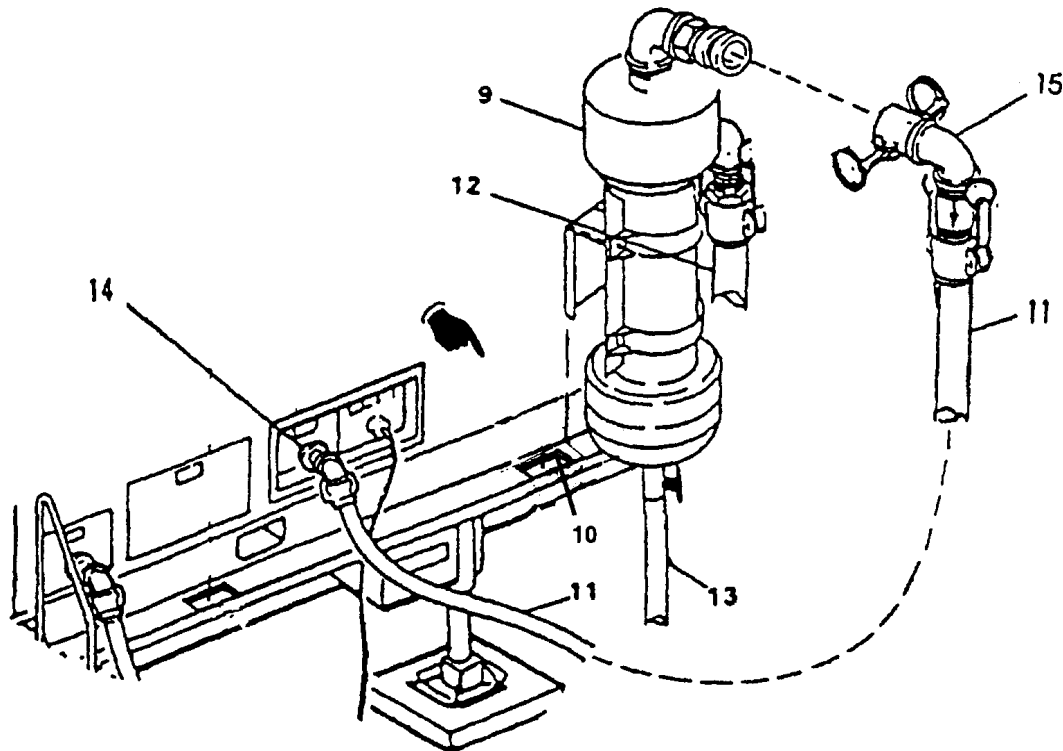

Figure 2-29. Set-Up Cyclone Separator (Sheet 2 of 2)
- (l) Install the cyclone separator (9, Figure 2-29) into the stake pocket (10) on the trailer.
- (m) Install pipe section (15) onto the cyclone separator (9).
- (n) Connect the raw water discharge pump hose (12) to the cyclone separator (9).
- (o) Connect the raw water inlet hose (11) to the raw water inlet (14) and to the pipe section (15).
- (p) Direct the cyclone separator drain hose (13) toward the water source.